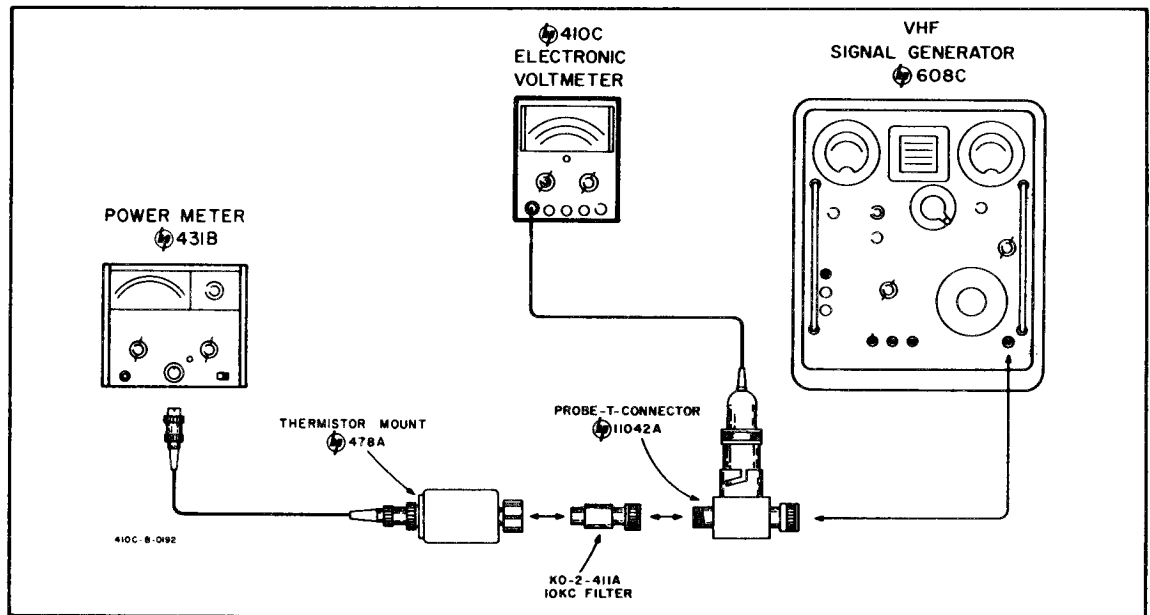

Figure 5-3. High Frequency Response Test
a. Figure 5-3 describes the test arrangement required for this operation. Do not place Model 410C AC Probe in T-Connector at this point.
- a. A Frequency Response Test Set (Model 739AR), a Test Oscillator (Model 651A), an RF Signal Generator (Model 608 C), a Power Meter (Model 431 B), a Thermistor Mount (Model 478A), a Probe - T - Connector (Model 11042A), a VHF Signal Generator (Model 612A) and a 10 KC Filter (Model K02-411A) will be required for this operation. Figure 5-3 and 5-4 describe the arrangement to be
h. To check Model 410C frequency response from 10 Mc to 480 Mc, use arrangement described in Figure 5-3.